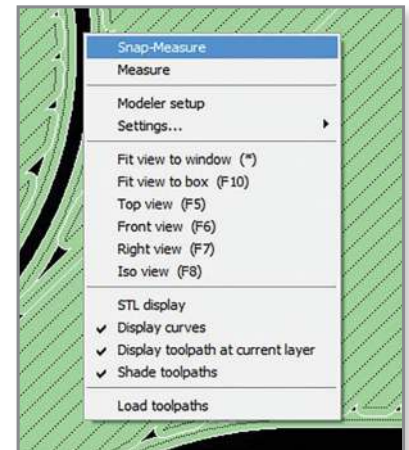

Figure 4: Snap-Measure tool.
STEP 7: Right click anywhere in the viewport and select *Snap-Measure* from the menu. Drag the cursor to measure the clearance between model toolpaths (Figure 4).